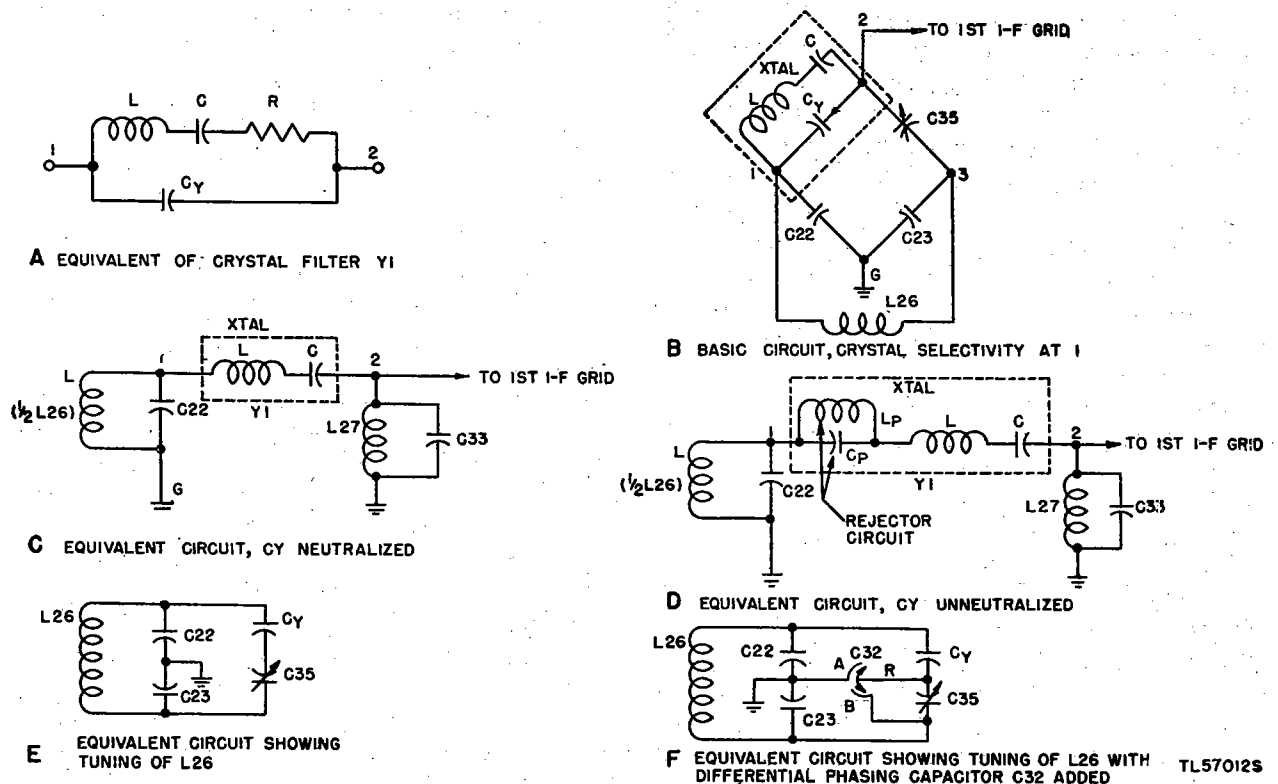

Figure 28. Radio Receiver BC-779-B, functional and equivalent diagrams of crystal filter circuit.
(4) Refer to appendix III for circuit details of Improvement Kit MC-531.
61. Crystal Filter (fig. 28)
a. EQUIVALENT CRYSTAL CIRCUIT. The equivalent electrical circuit of a crystal is shown in "A," figure 28. The circuit, and hence the crystal, are resonant at two frequencies: The frequency at which the reactance of L is equal to the reactance of C (series resonance), and the frequency at which the effective reactance of L-C (in series) is *inductive* and *equal* to the capacitive reactance of C_X (parallel resonance). At the series-resonant frequency the crystal acts as a low-impedance connection between 1 and 2. At the parallel-resonant frequency the crystal acts as a high impedance between 1 and 2.
b. BASIC FILTER CIRCUIT ("B," fig. 28). Capacitors C22 and C23 (100 mmF each) are connected in series across the secondary of i-f input transformer L26, and their junction is grounded to provide a midpoint connection in the resonant circuit L26-C22-C23. Consequently, the capacitor voltages are always of equal amplitude but 180° out of phase. Phasing capacitor C35 (1.5 to 5 mmF) is connected between 3 and 2, and the crystal is connected between 1 and 2.
c. NEUTRALIZATION OF C_X . Capacitors C22, C23, C35, and C_X (the capacity between the crystal holder plates) form a capacity bridge; the input is applied to 1 and 3, the output is taken from 2 and G. When capacitor C35 is adjusted so that its capacitance is equal to that of C_X , the voltage coupled from 3 through C35 to 2 is equal and opposite to the voltage coupled from 1 through C_X to 2. Under this condition C_X is neutralized and the crystal acts as a series-resonant circuit only ("C," fig. 28). Since the crystal is resonant at the intermediate frequency, there is (in effect) a direct connection between 1 and 2. As indicated in "C," figure 28, only the voltage across C22 (one-half the secondary voltage) is applied through the crystal to the grid circuit of the first i-f stage.
tance of $L-C$ and the capacitive reactance of C_Y . For simplicity the parallel-resonant circuit is denoted as rejector circuit $L_P C_P$ in "D," figure 28. L_P and C_P denote the effective inductance and capacitance at the parallel-resonant frequency. L and C indicate the effective inductance and capacitance of the crystal at the series-resonant frequency, in this case the 465-kc i.f. In other words, unless C_Y is neutralized, the crystal acts simultaneously as a parallel- and series-resonant circuit. The parallel-resonant circuit $L_P C_P$ has no effect on the 465-kc i.f. but presents a high impedance to, and therefore rejects, the frequency to which $L_P C_P$ is resonant. L and C present extremely low impedance to the 465-kc i-f signal voltage and high impedance to voltages at different frequencies. *With underneutralization the resonant frequency of $L_P C_P$ is higher than 465 kc.*
f. **CAPACITOR C32.** Capacitor $C35$, in series with capacitance C_Y , is across $L26$ and affects its tuning ("E," fig. 28). To avoid the detuning effect and to enable shifting the rejection frequency to either side of the i.f., differential PHASING capacitor $C32$ ("F," fig. 28) is used in the radio receiver. Stator sections A and B are so arranged that, as rotor R is turned out of one stator into the other, the capacitance of the first *decreases* by the same amount that the capacitance of the second *increases*. Thus, whether the rotor is entirely engaged in stator A, is at a midpoint, or is entirely in stator B, the effective capacitance across A-B, and therefore across $L26$, remains constant. Assume that $C32$, the PHASING capacitor, is set at the arrow position of the PHASING control on the front panel and
(2) **CRYSTAL SELECTIVITY switch at 1.** When CRYSTAL SELECTIVITY switch SW7 is placed at 1, the short is removed from the crystal. If the secondary of L26 and the parallel-resonant grid circuit, L27-C33, are tuned to 465 kc, each is the equivalent of a high resistance in series with the equivalent series-resonant circuit of the crystal ("C," fig. 28). Consequently, the Q and therefore the selectivity of the series-resonant (crystal) filter circuit is reduced, and the bandwidth is several kilocycles wider than that of the crystal alone.